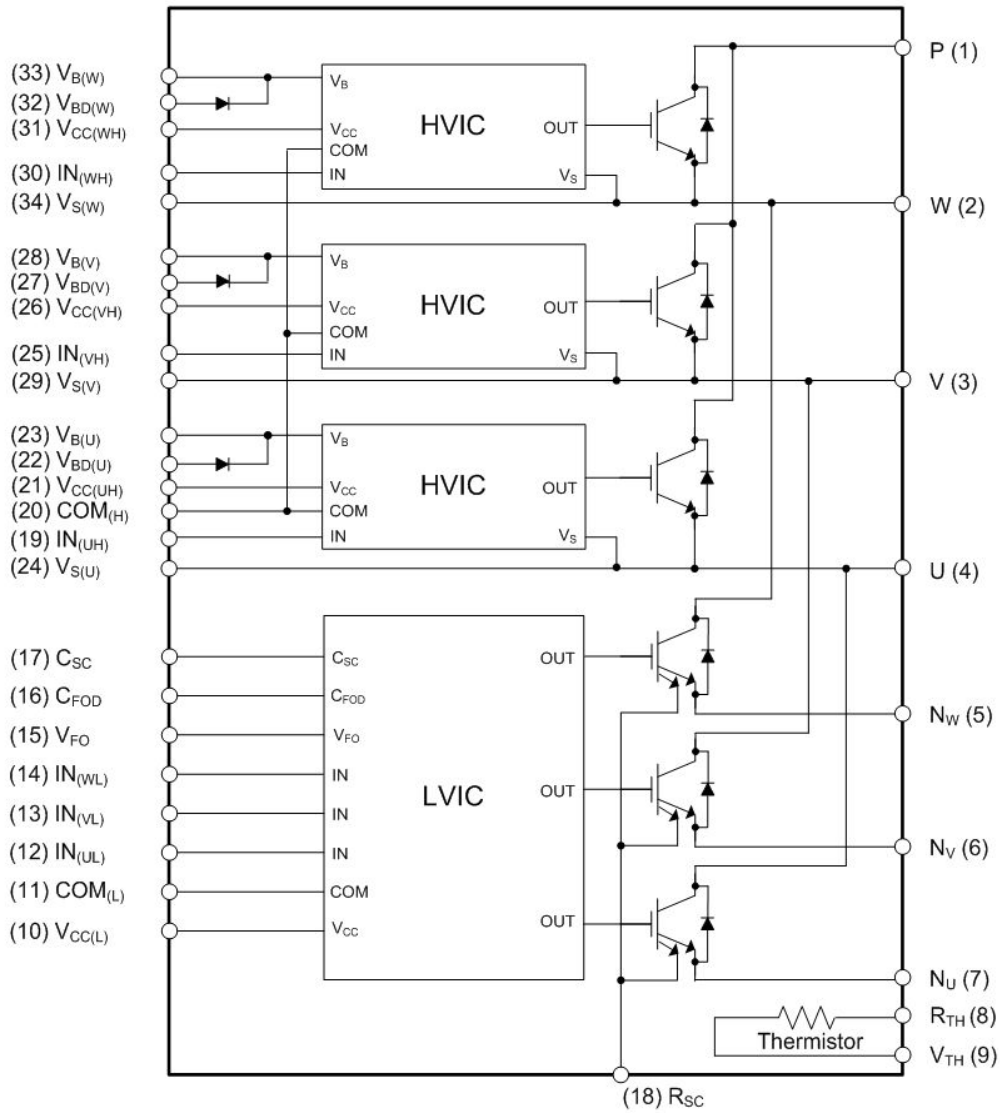

Figure 3. Internal Block Diagram
- 1200 V - 25 A IGBT inverter for three-phase DC / AC power conversion (refer to Figure 3)